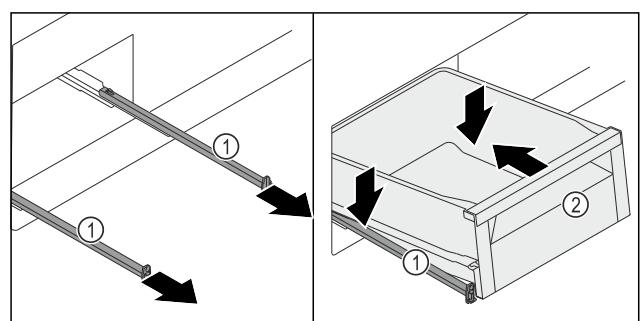

Fig. 119
- ▶ Pull out the rails Fig. 119 (1).
- ▶ Hold the rails Fig. 119 (1) firmly and place the drawer Fig. 119 (2) diagonally on the rails Fig. 119 (1) from above.
- ▶ Slide the drawer Fig. 119 (2) backwards on the rails Fig. 119 (1) as far as it will go.